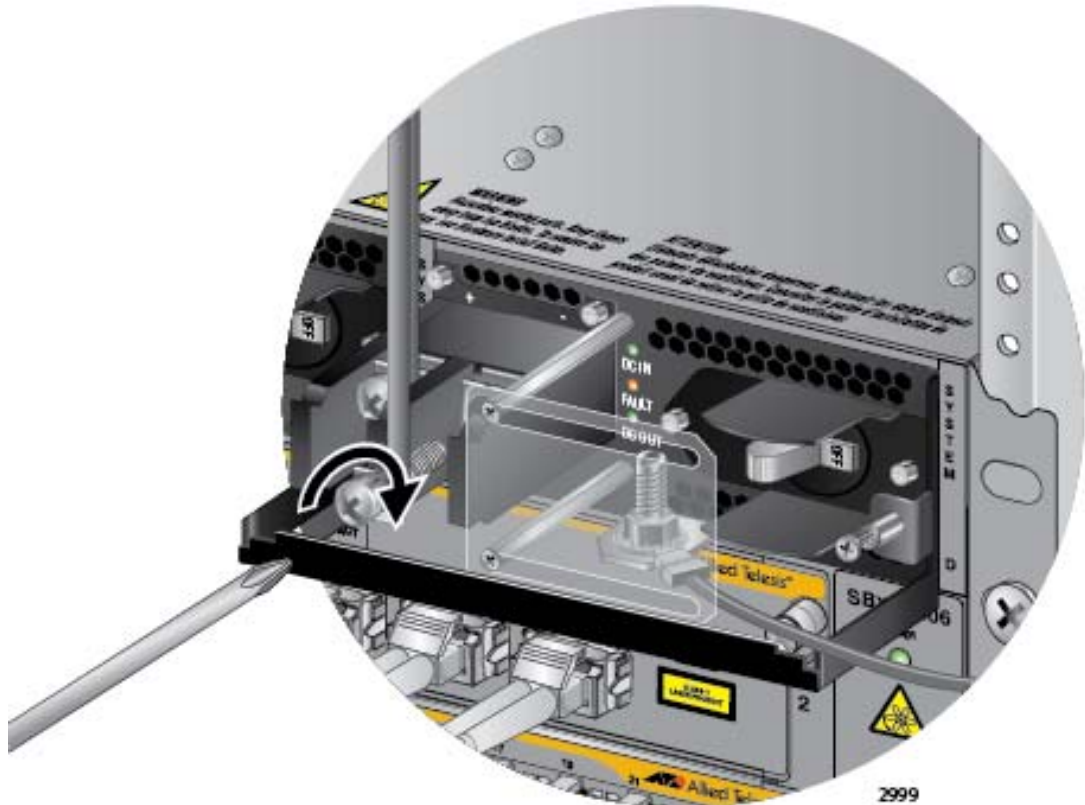

Figure 149. Connecting the Negative Lead Wire
5. Wrap the negative lead wire clockwise around the remaining terminal screw and secure the screw and wire to the negative terminal connection on the terminal block with a #3 Phillips-head screwdriver, as shown in Figure 149 on page 221. The negative terminal is on the right.